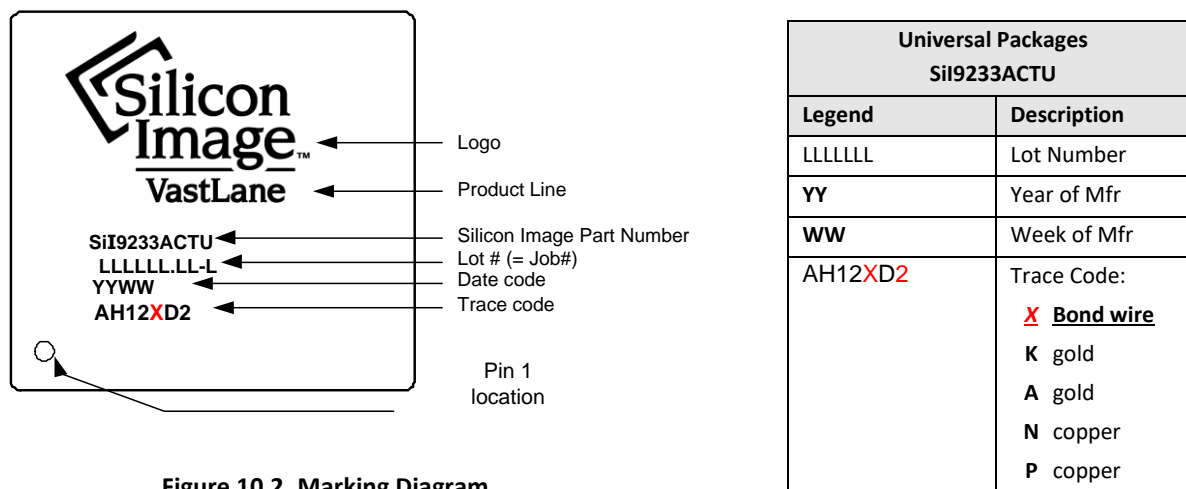

Figure 10.2. Marking Diagram
Figure 10.2 shows the markings of the SiI9233A package. Figure 10.1 on the previous page shows the package and dimension details.
1. Updated Figure 10.2. Marking Diagram to show trace code information.